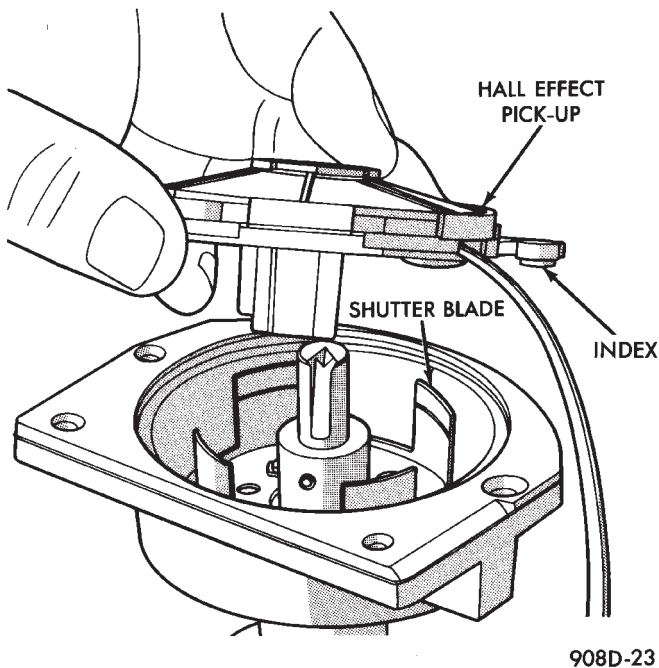

Fig. 19 Hall Effect Pickup Assembly—2.2L TBI, 2.5L TBI and Turbo I Engines
- (3) Remove **Hall effect pick-up assembly** (Fig. 19).
- (1) Place pick-up assembly into distributor housing (Fig. 19).